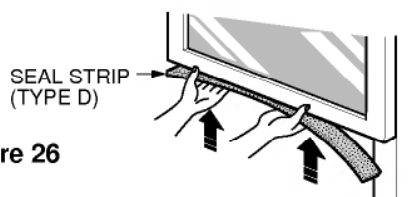

Figure 26
2. Cut the adhesive-backed seal strip (TYPE D) to the window width. Remove the backing from the seal strip and attach the seal strip to the underside of the bottom window. (Figure. 26)